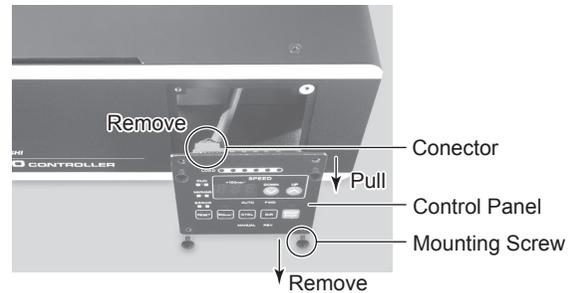

Fig. 21
- (1) Remove the 4 screws that affix the Control Panel and pull the Control Panel gently from the CONTROLLER (Fig. 21).
Remove the connector from rear of the Control Panel (Fig. 21).